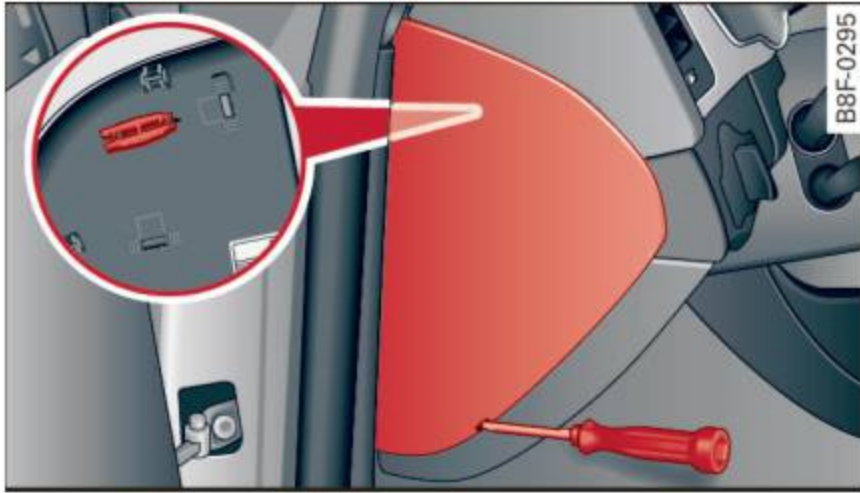

Fig. 181 Left cockpit: fuse panel cover
- ▶ Remove the clamp from the rear side of the cover ⇒ fig. 181.